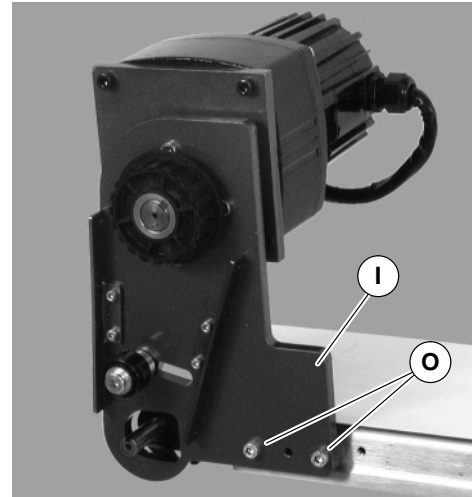

Figure 4
3. Attach mount assembly (I of Figure 4) with screws (O). Tighten to 80 in-lb (9 Nm).